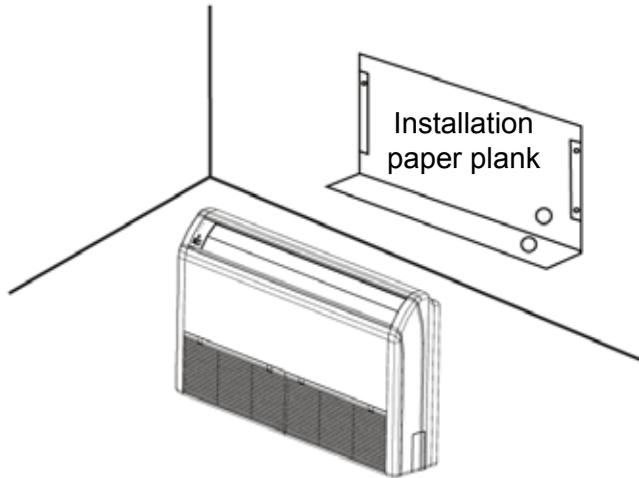
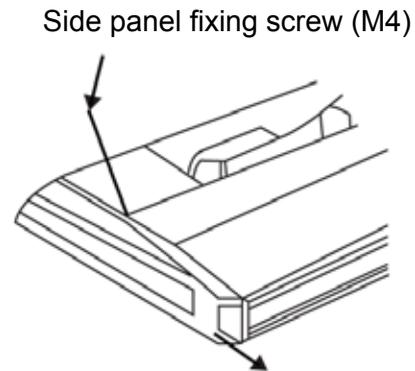

Fig. 2
Fig. 3
- (1). The unit must be installed by professional personnel according to this installation manual to ensure proper function.
- (2). Relocation should be performed by professional personnel.
These two types of units have similar installation procedures as follows: (1). Determine the mounting position on ceiling or wall by using paper pattern to indicate indoor frame. Mark the pattern and pull out the paper pattern.(Refer to Fig. 2).
- (2). Remove the return grill, the side panel and the hanger bracket from the indoor unit as per procedure below.
- Loosen the side panel fixing screw and remove the side panel. (Refer to Fig. 3).